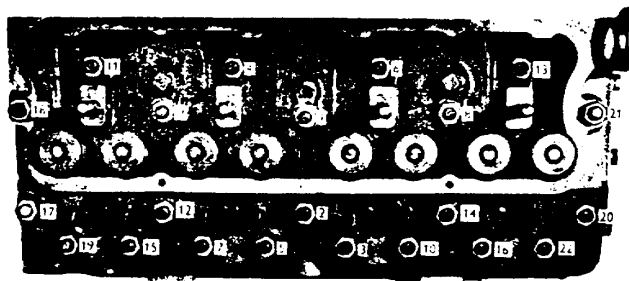

Fig. E.11.
2. Place the cylinder head in position on the cylinder block. Lightly oil threads and tighten nuts/setscrews progressively (in 3 stages) in the order shown in Fig. E.11 to a torque of 100 lb ft (13,8 kgf m) — 136 Nm. The final stage should be repeated to ensure that no loss of tension has occurred earlier in the tightening sequence.
18. Run the engine until normal operating temperature is attained and retighten the cylinder head nuts/setscrews, in sequence Fig. E.11, and to the correct torque as given on Page B.1.
Note: After the first 25/50 hours running, the rocker assembly should be removed and the cylinder head nuts/setscrews again retightened to the correct torque and the sequence shown in Fig. E.11. Ensure the correct procedure is followed as in above 18. Replace rocker assembly and set valve clearance to 0.012 in (0.30 mm) with the engine cold.